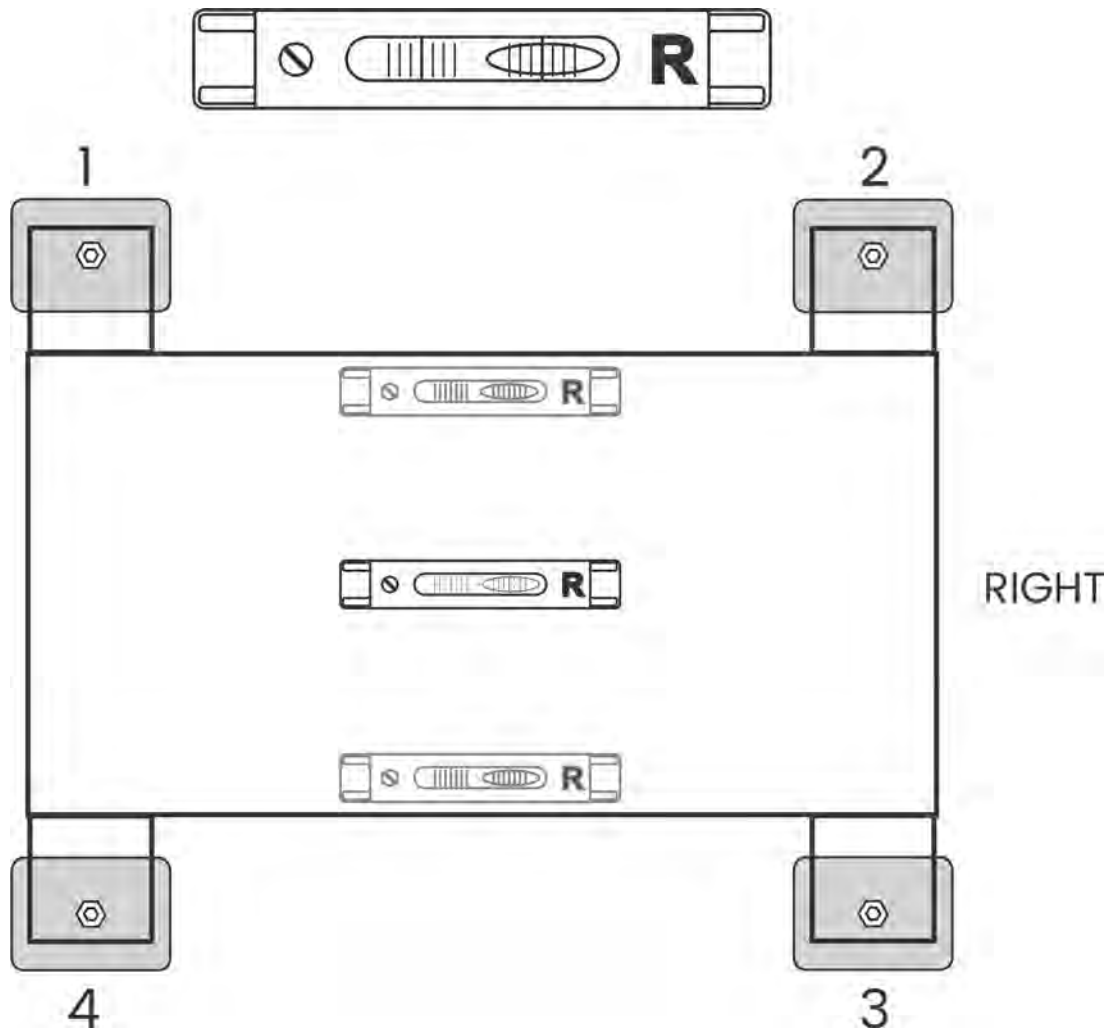

Figure 20
8. If your level condition is as shown in Figure 20, the left side of the press is low. Raise feet 1 & 4 until the press is level at both level locations. If the right side of the press is low (bubbles reversed), raise feet 2 & 3.